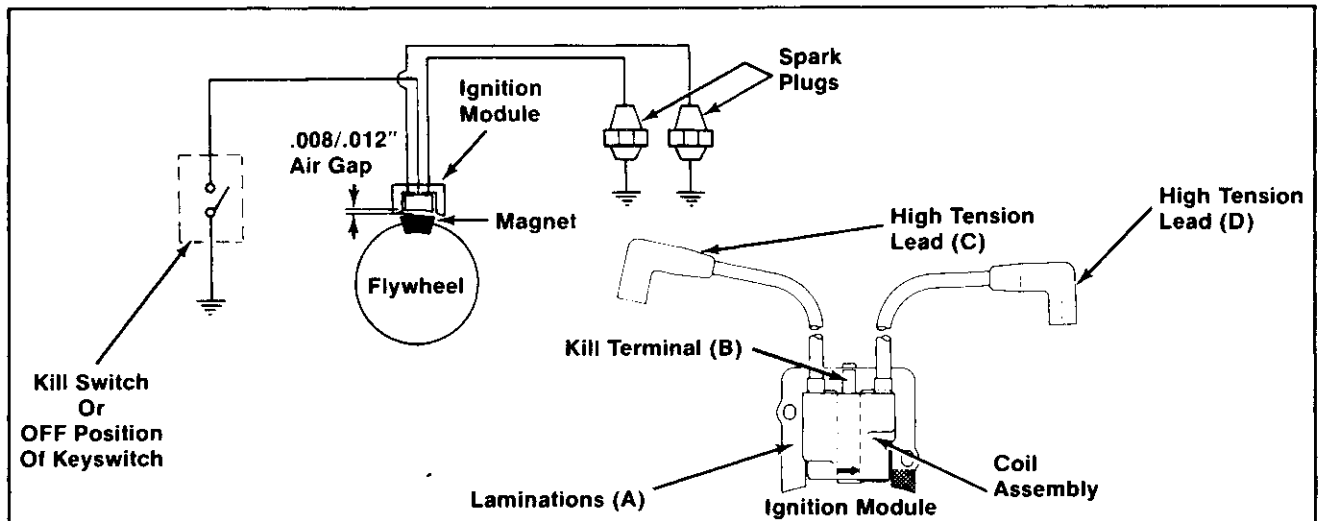

Figure 8-1. Magnum Electronic Magneto Ignition System.
Magnum vertical shaft engines are equipped with a state-of-the-art electronic magneto ignition system. The system consists of the following components (refer to Figure 8-1):
4a. Measure the primary resistance of module using an ohmmeter (refer to figures 8-1 and 8-3): <p style="margin-left: 20px;">Connect negative (-) lead of ohmmeter to kill terminal (B); connect positive (+) lead of ohmmeter to laminations (A). With the ohmmeter leads connected in this manner, the primary resistance should be 5 to 1000 ohms*.</p> <p style="margin-left: 20px;">Reverse the ohmmeter leads. Connect the negative (-) lead to laminations (A); connect the positive (+) lead to kill terminal (B). With the ohmmeter leads connected in this manner, the primary resistance should be 30,000 ohms minimum.</p> <p style="margin-left: 20px;">*NOTE: Resistance may vary, depending on voltage imposed by ohmmeter.</p>	If resistance is low or 0 ohms in both directions, module primary is shorted. Replace module.  If resistance is high or infinity ohms in both directions, module primary is open. Check keyswitch/wiring for shorts or connections which could apply 12V to kill terminal B. Correct those conditions, then replace module.  If resistance is within range, module primary is OK. Test secondary (Test 4b).